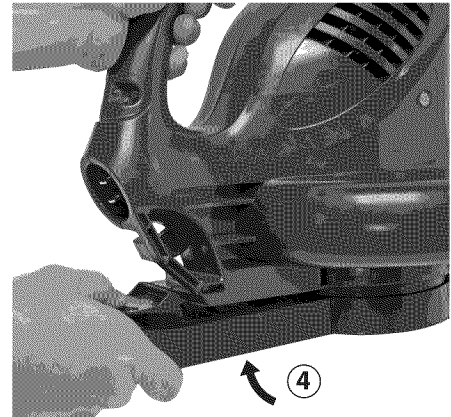

Figure 3-4: Pivoting bottom inlet cover to blower/vac housing
3. Pivot bottom inlet cover to bottom of blower/vac housing. Slightly press locking lever on bottom inlet cover to allow cover to lock into place (see Figures 3-4 and 3-5).